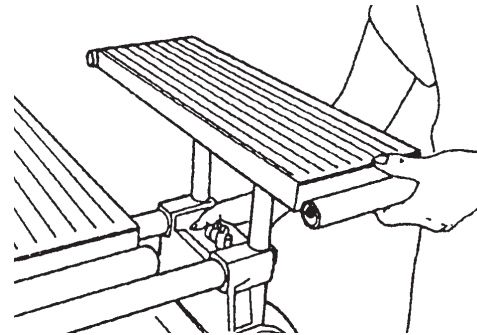

Figure 87
1. Mount the Extension Table in the MARK V's Accessory Base Arm (on the right side) at a comfortable height, as shown in Figure 87.